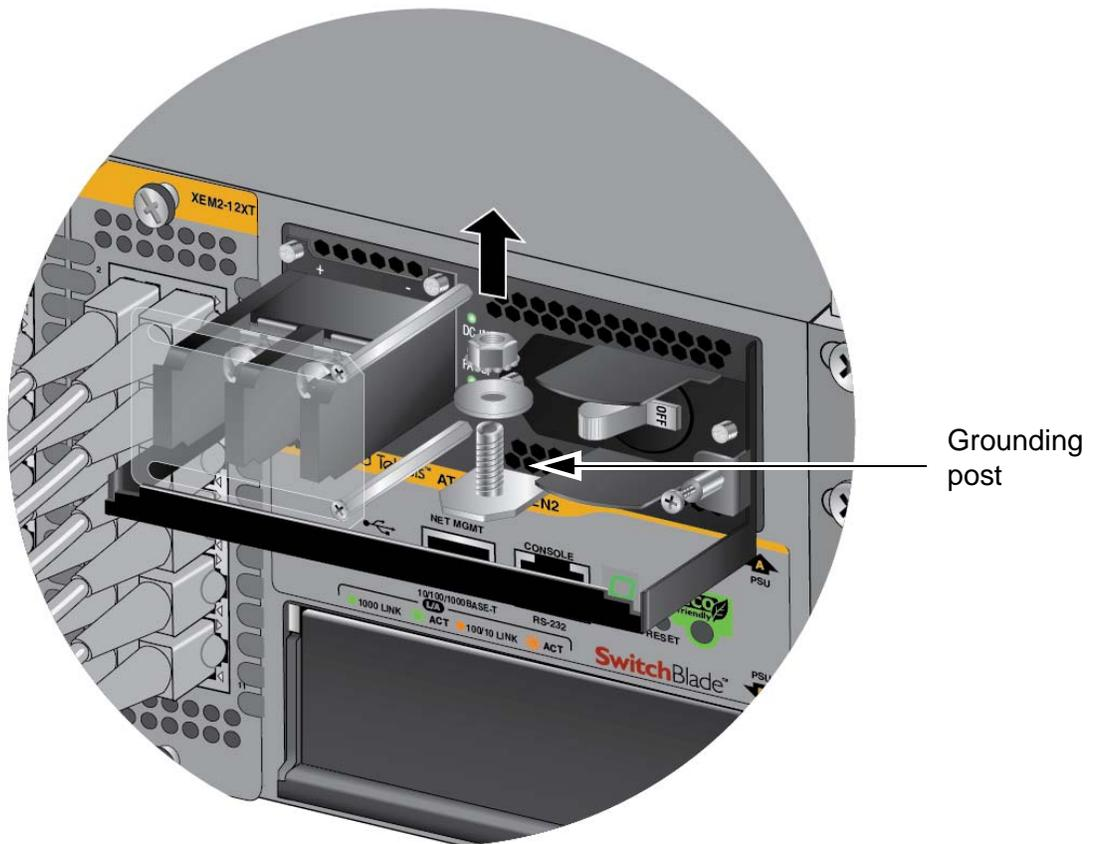

Figure 72. Removing the Nut and Washer from the Grounding Post
4. Use an 8 mm wrench to remove the grounding post nut and washer, shown in Figure 72 on page 125, from the power supply.
3. Use an 8 mm wrench to remove the grounding post nut and washer, shown in Figure 72 on page 125, from the grounding post on the power supply.